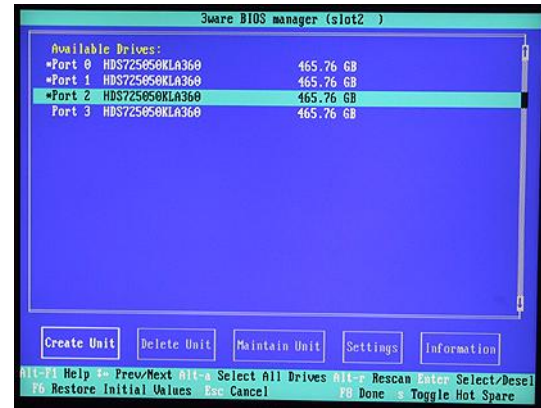

Figure 3-48
- 3) Use the up/down arrow keys to highlight disks 00, 01, and 02 in turn; as each disk is highlighted, press the <Enter> key to select it (selected disks are indicated with an asterisk '\*' character as shown in Figure 3-48). (Note that the reason disk 03 is not selected is that this is being reserved as the hot-spare.)
- 4) Use the <Tab> key to highlight the **Create Unit** option (Figure 3-48), then press the <Enter> key to key to invoke the Create Disk Array screen.